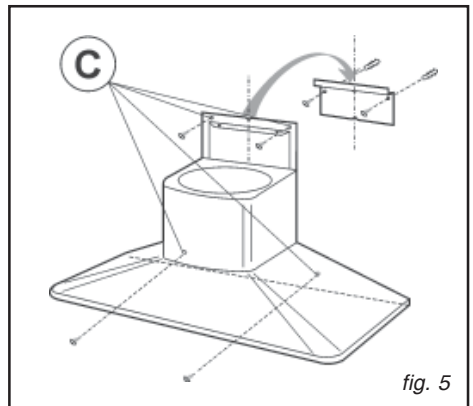
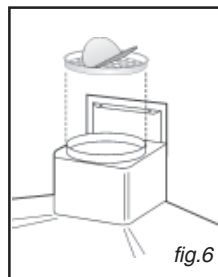
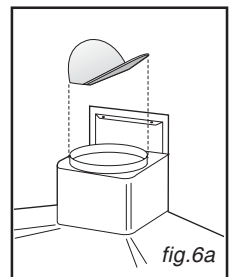

fig. 5
fig.6
fig.6a
- Hang the hood on the bracket (fig. 5). Adjust the horizontal position moving the hood to the right or left so that it is aligned with the wall units.
- When adjustment has been completed, without removing the hood, mark the other 4 holes to be drilled (C) in the wall. Remove the hood and drill the holes marked (8 mm diameter). Then use the 4 screw anchors and the 4 screws provided for final fixing.
- Install the flange in the device air outlet and press slightly (fig.6/fig.6A). In the case of installation with air evacuation to the outside, fitting the non-return valve prevents the wind from entering and the air from returning. Caution: Before fastening the air exhaust pipe to the motor, check that the non-return valve on the air vent can move freely.